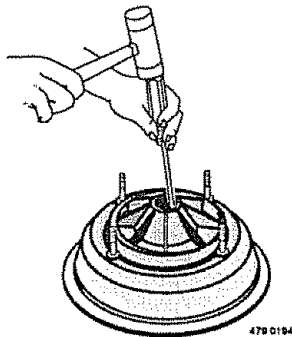

Figure 22 – Tap Out Seal
4. Place pump body half face down on flat surface and tap out stationary half of seal (see Figure 22).